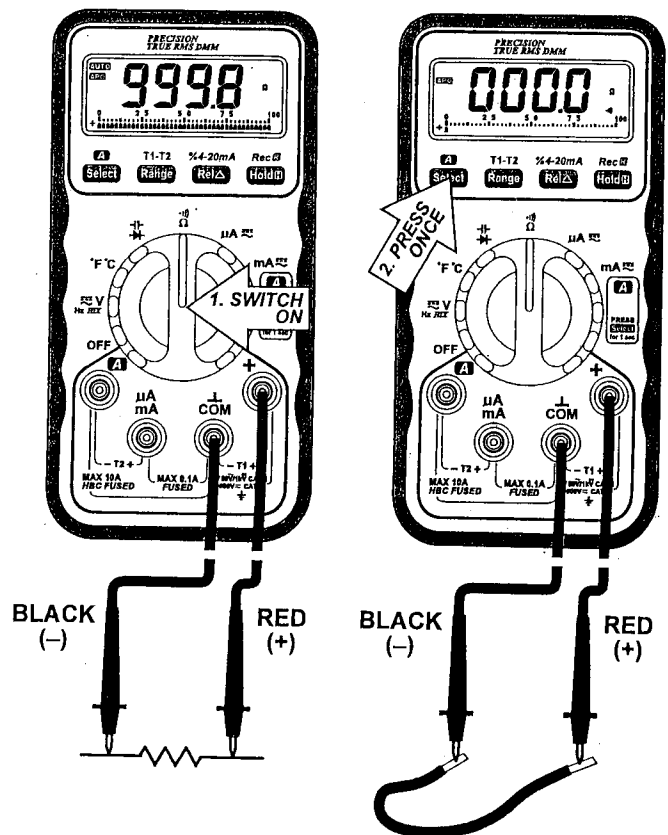

FIG 7. Ω RESISTANCE, \bullet) CONTINUITY FUNCTIONS
- 3) Connect the test leads as shown in FIG 7 and observe the digital display